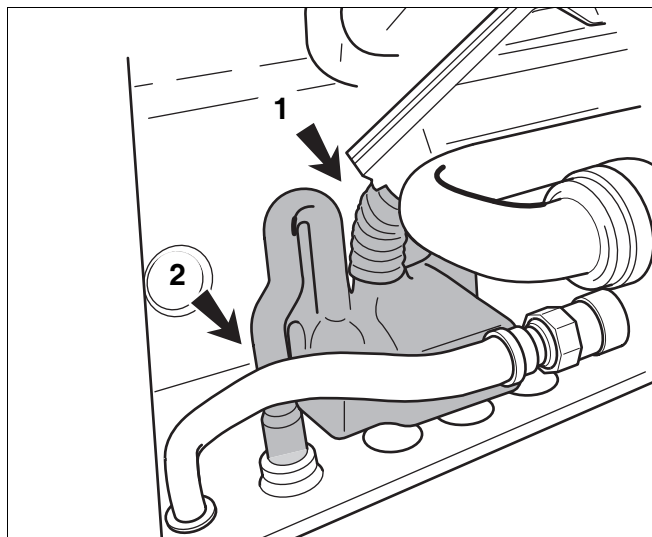

fig. 82 Disconnecting the condensate trap connection
- Pull the condensate trap from the condensate plate (see fig. 82).